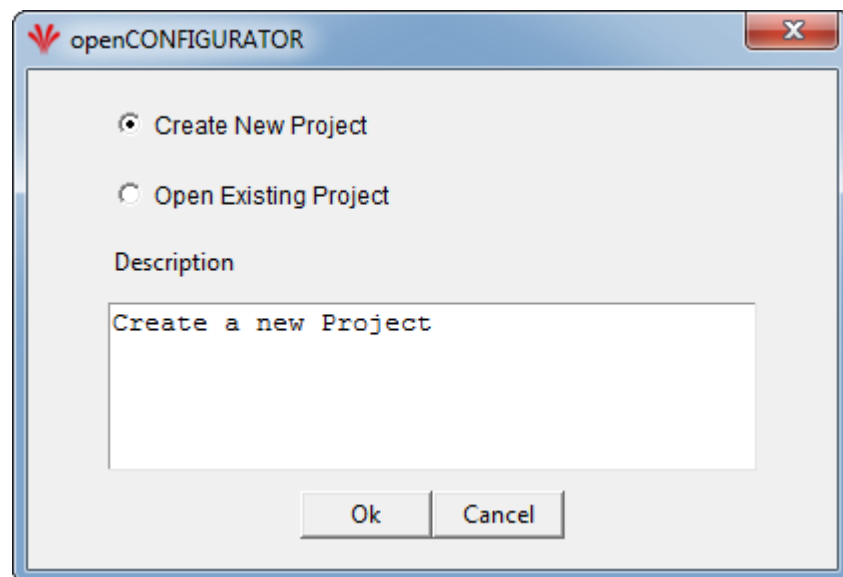

Figure 7: Project wizard
- When the user launches openCONFIGURATOR, it will ask either to **Create New Project** or **Open Existing Project** as shown in Figure 7: Project wizard.